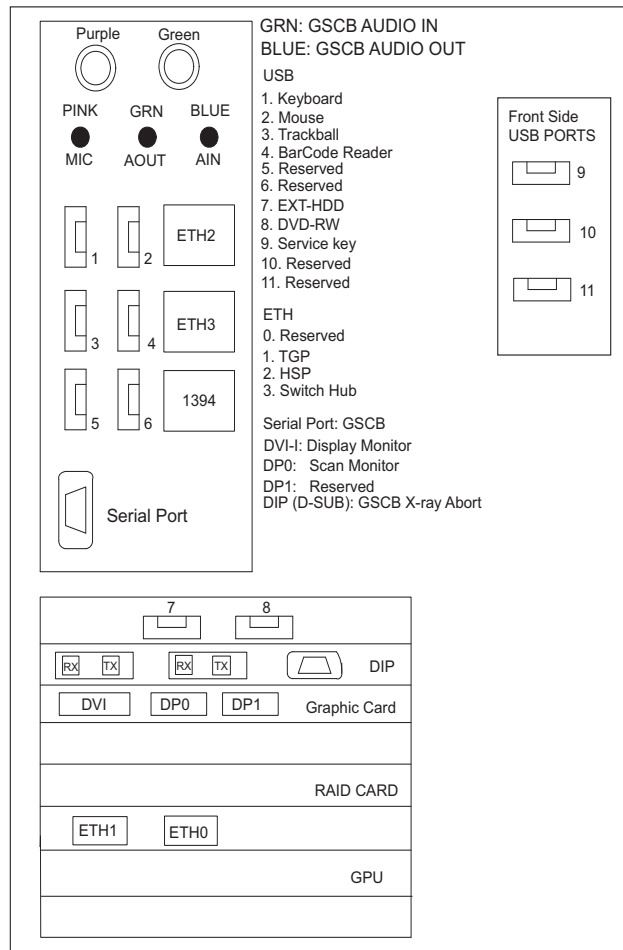

Figure 2-13 Host Computer (Z820) Connections
- 2.) Connect the all cables (see Table 2-4) to the rear of Host Computer referring to the drawing below (Figure 2-13).The drawing is also printed on the right rear door of the console.